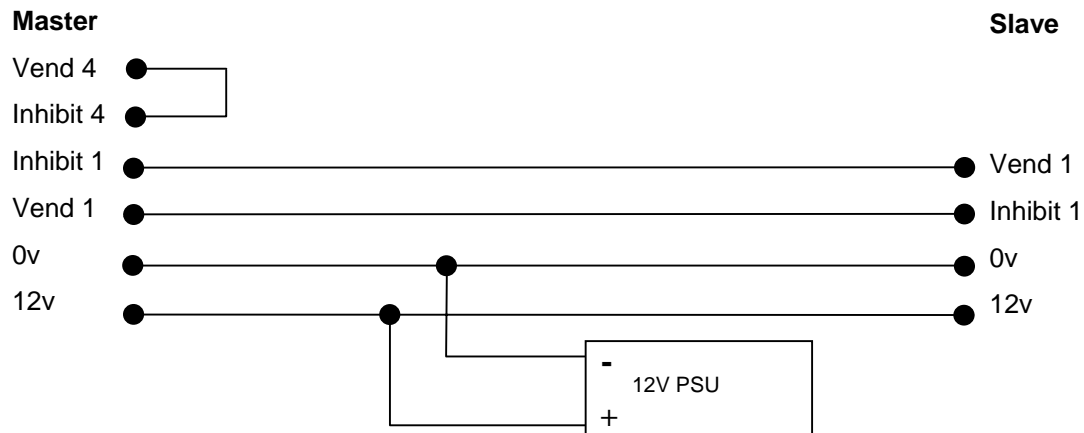

Figure 8 - NV8 Copy Cable Diagram
There NV8 Bank Note has a facility to copy its programme and settings to another NV8. The 'Master' validator will transmit the currency data and upgrade the slave's firmware using the NV8 configured copy cable assembly (see figure 8).
- Using the NV8 cloning kit CK2 or connect the two units together as above (see figure 8).